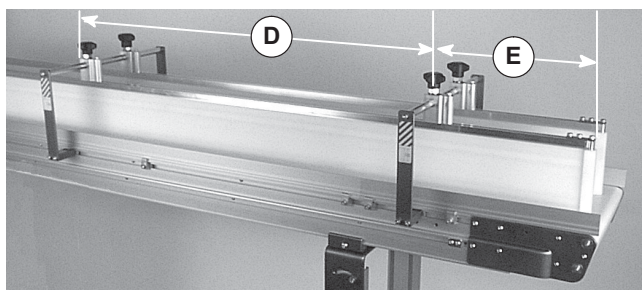

Figure 3
- Guide support maximum distances (see Figure 3)